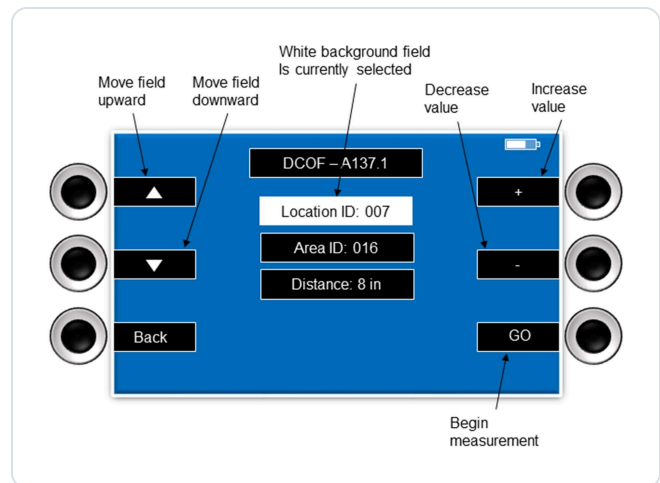

Figure 4. Setting location, area and distance before a test.
- 6 Use the navigation switches (arrows, + and –) to set the test run distance (DCOF only), area and location codes (Figure 4).